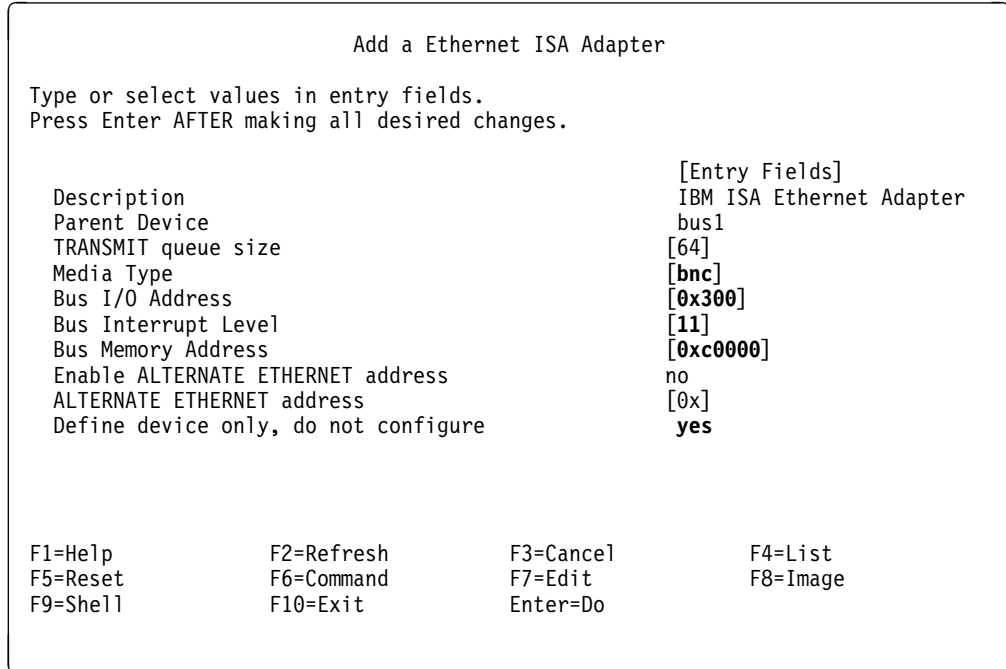

Figure 40. SMIT Configuration Menu for Adding an ISA Ethernet Adapter
12. From the menu described in Figure 40 on page 128, select the correct Interrupt Level, Bus I/O Address, Bus Memory and Media Type values, and press **Enter**.